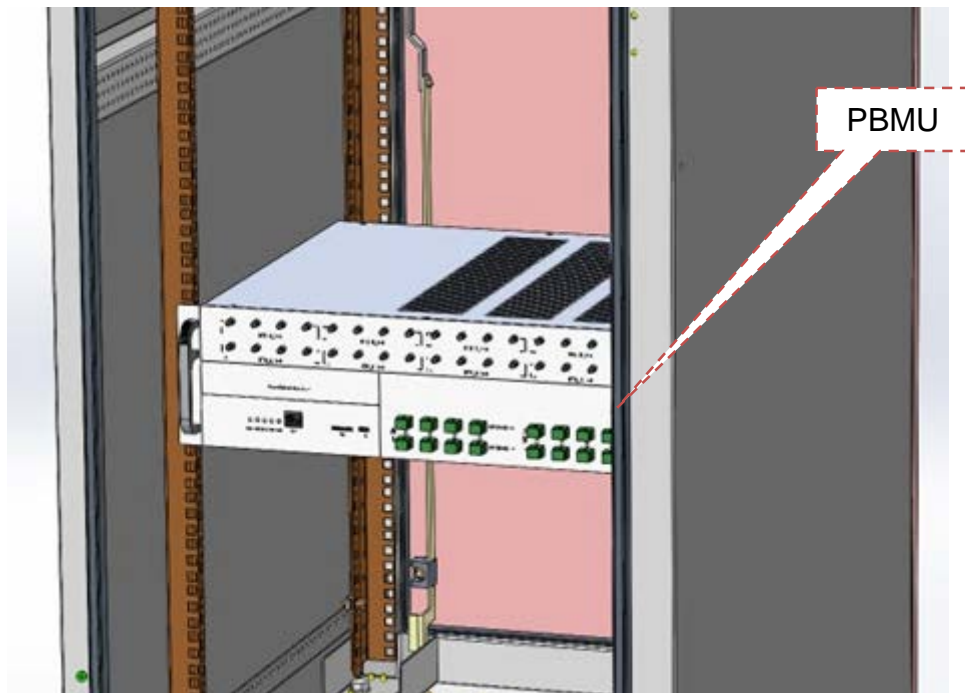

Figure 4-3 Push PBMU into the cabinet.
2. Push PBMU into the cabinet. as shown in Figure 4-3